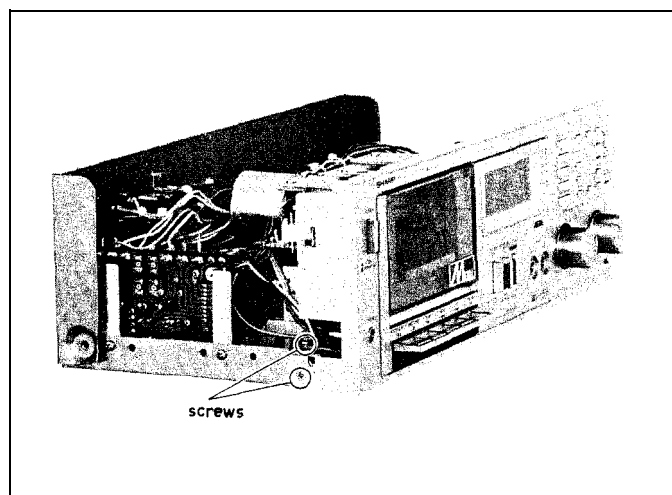

Figure 5-1
4. Remove the two (2) screws one each at the right and left sides of the front panel, (Refer to Figure 5-1 and Figure 5-Z.)
5. Remove the one (1) screw from the headphone socket P.W.B. (Refer to Figure 5-1.)